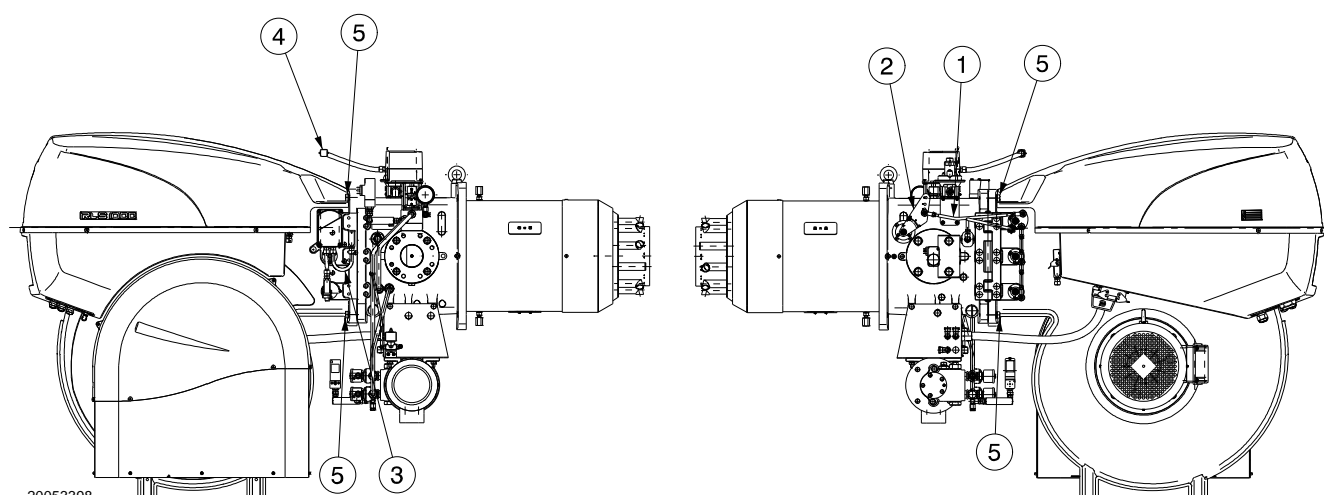

Fig. 41
- Remove the tie-rod 1)(Fig. 41) of the head movement lever, undoing the nut 2).